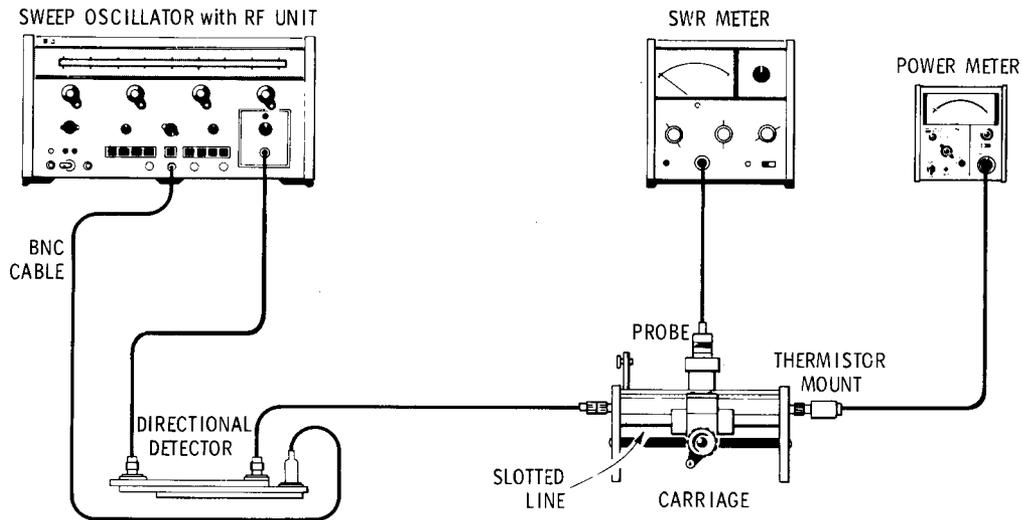

Figure 6. SWR Measurement Test, 8 GHz
- a. Connect the test equipment as shown in Figure 6. Make sure all connections are secured tightly.